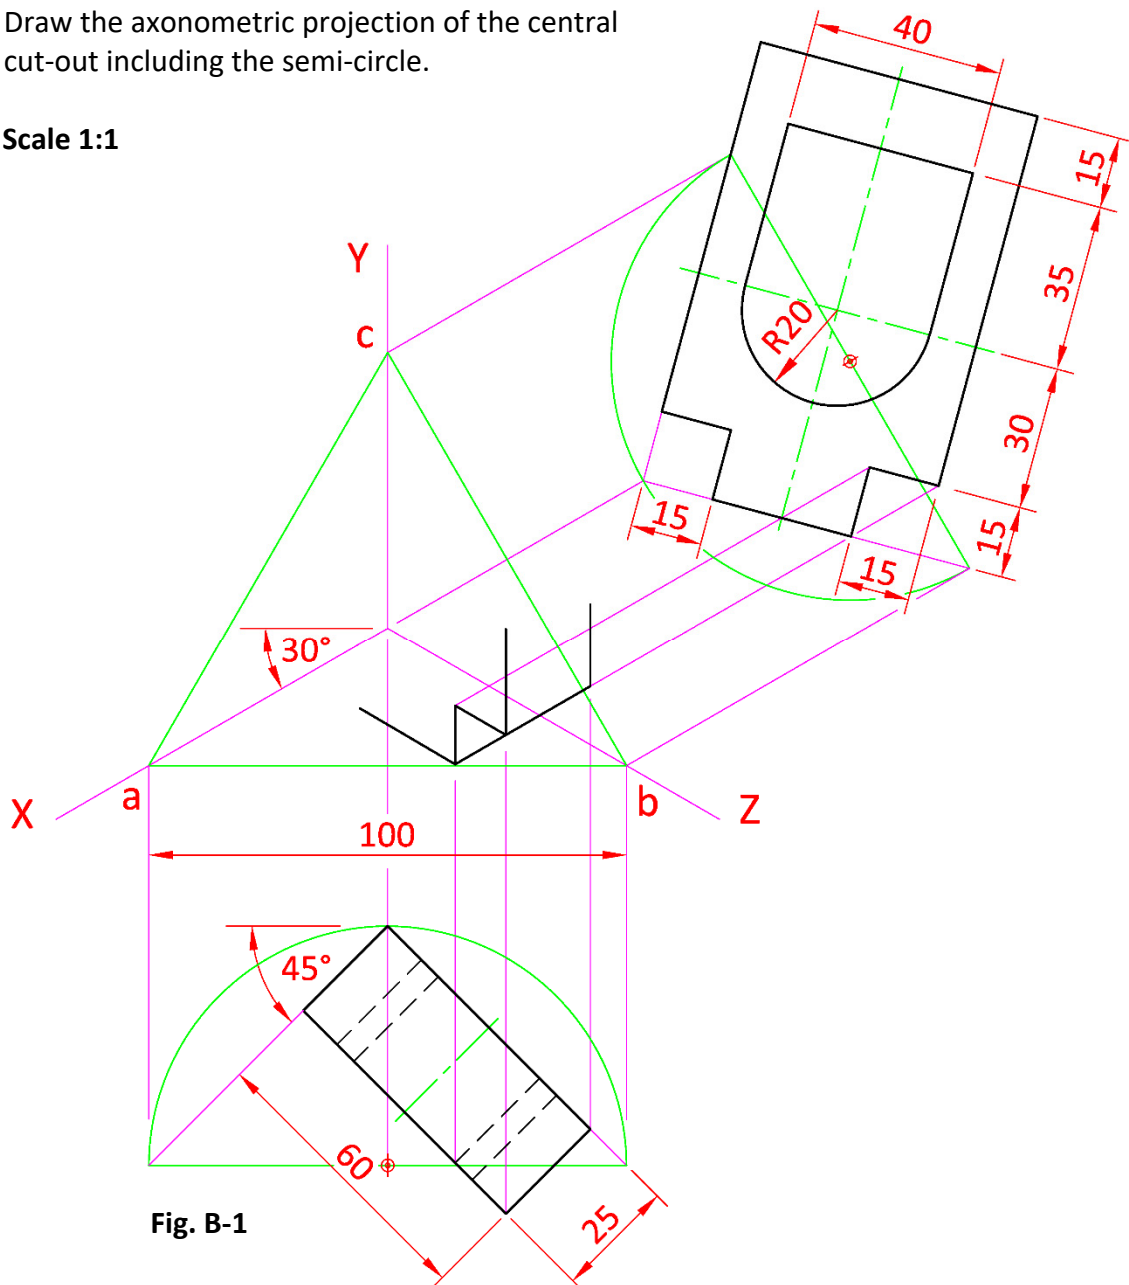

Fig. B-1
- B-1.** The image on the right shows a Tesla charging station. Fig B-1 below shows an incomplete isometric projection of a similar charging station.